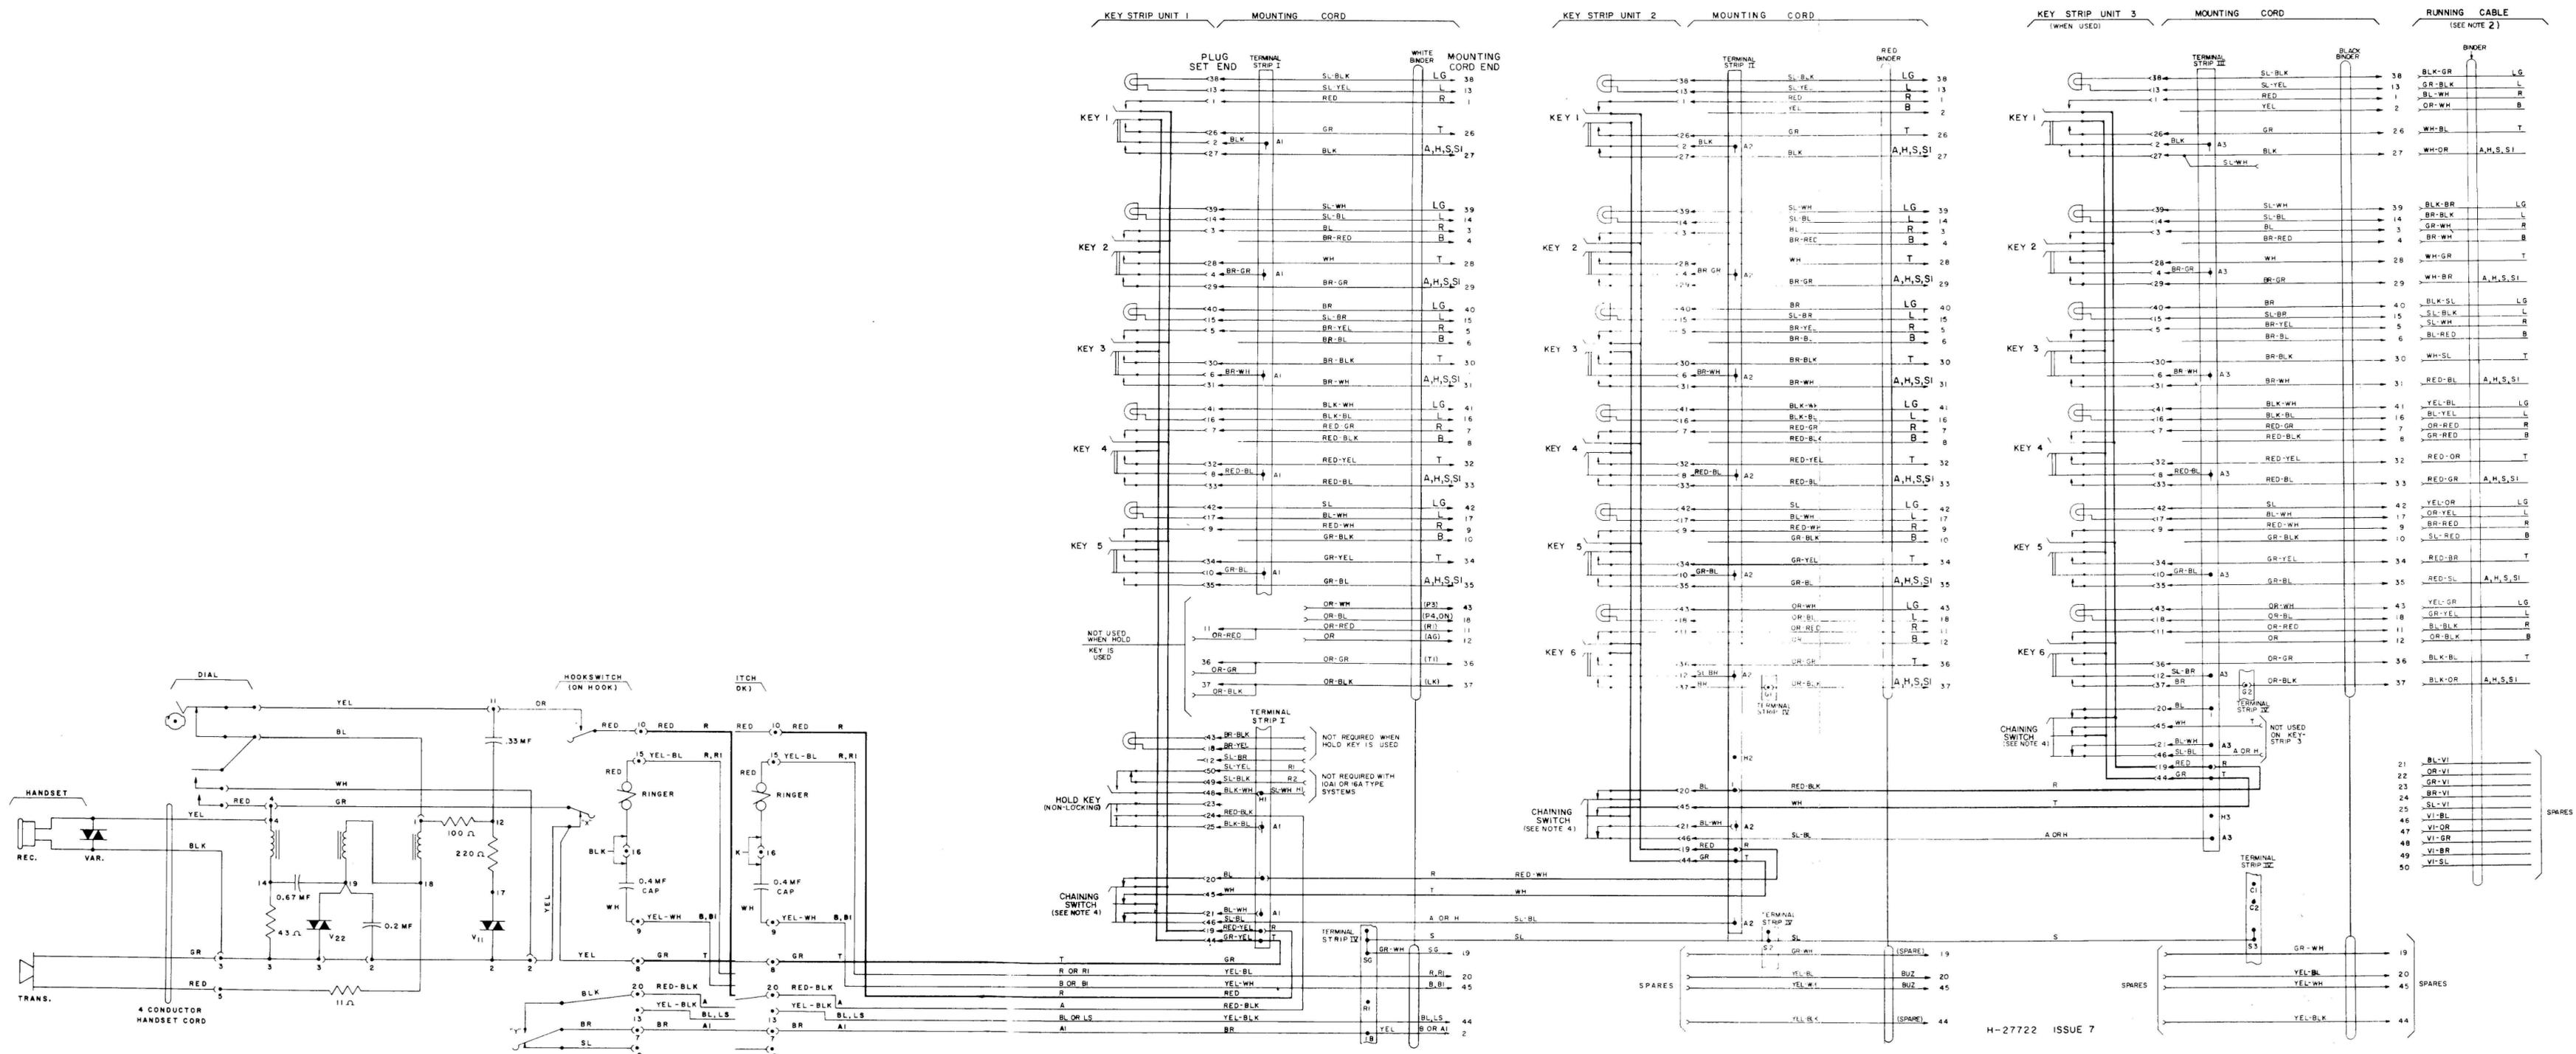

Figure 8. Schematic and Wiring Diagram, Type 860A Key Telephone (Includes Complete Mounting Cord and Typical Running Cable Selection).
4.18 To perform the wiring changes necessary, raise the key frame assembly (paragraph 4.04). The terminal strips on the underside of the attached mounting cord frame are now accessible. Remove plastic sleeves from unused insulated color-coded leads OR-BL and BR-YEL. (The spade-tip is covered with a plastic sleeve.) Connect these leads to an unused terminal (use terminal C1 on terminal strip IV). Likewise connect spade-tipped leads color-coded OR-WH and BR-BLK, also insulated and unused, to another unused terminal (use C2 of terminal strip IV). Connect spade-tipped, insulated, and unused lead color-coded SL-BR, connected to terminal 12 of the 50-terminal plug (Figure 8), to terminal A1 of terminal strip I. Lower the key frame back into place, and replace the key telephone housing cover (paragraph 4.09).
- 4.23 To perform the wiring changes necessary, raise the key frame assembly (paragraph 4.04). The terminal strips on the underside of the attached mounting cord frame are now accessible. If the converted key is in the key-strip unit in the second position, transfer its spade-tipped lead from its A2 terminal on terminal strip II to the S2 terminal on terminal strip IV. If the converted key is in the third position, its spade-tipped lead is transferred from its A3 terminal on terminal strip III to the S3 terminal on terminal strip IV, etc. (Figure 8). The key frame assembly may now be lowered into place and the housing replaced (paragraph 4.09).
5.04 Figure 8 shows the plug and receptacle terminal numbers, lead designations, and color code so that proper connections can be made between the running cable conductors and the relay equipment terminals. (It is necessary to have information about the relay equipment in order to make these connections.)
6.03 Remove the key telephone housing (paragraph 4.03) and loosen the three dial mounting plate screws. Move the dial mounting assembly toward the rear of the unit and lift it clear, exposing the transmission unit. Remove the plastic dial dust cover and disconnect all leads connected to the dial. Loosen the three dial mounting screws (Figure 2) and remove the dial assembly from the dial mounting plate. Place the new dial assembly in the dial mounting plate and tighten the three dial mounting screws. Reconnect the leads to the new dial; see Figure 8 for lead connections. Replace the dial mounting assembly over the transmission unit, tighten the three dial mounting plate screws, and replace the key telephone housing.
NOTES FIGURE 8